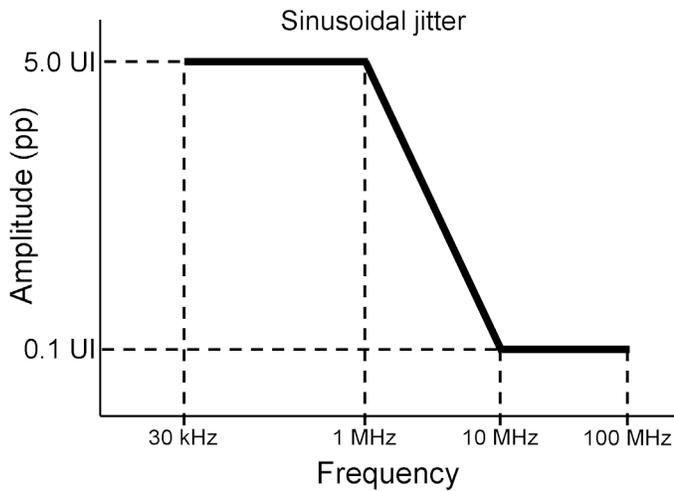

FIGURE 8. SJ template for probing CR bandwidth and jitter filtering.
To probe the CR bandwidth, BW_{CR} , apply SJ (sinusoidal jitter) of varying frequencies and amplitudes to a test pattern with plenty of transitions like PRBS7 or PRBS9. The idea is to stress the CR bandwidth and its ability to filter jitter independent of its ability to lock. Start with low frequency, $f_{SJ} \ll BW_{CR}$ and high amplitude SJ, like that shown in Figure 8. Increase the amplitude until the BER ramps up, call that amplitude $A_{crit}(f_{SJ})$. Continue across the template, making careful measurements through the CR roll off.
- SJ, usually across a template like that shown in Figure 8